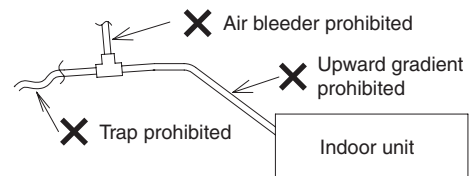

Fig. 1-125
- Do not install the drain pipe with an upward gradient from the drain port connection. This will cause the drain water to flow backward and leak when the unit is not operating. (Fig. 1-125)
- Do not install an air bleeder as this may cause water to spray from the drain pipe outlet. (Fig. 1-125)
- Do not provide U-trap or bell-shaped trap in the middle of the drain pipe. Doing so will cause abnormal sound. (Fig. 1-125)